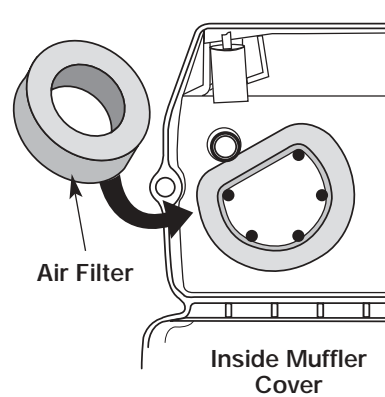

Fig. 48
2. Turn cover over and look inside to locate the air filter. Remove the air filter from inside the air filter/muffler cover (Fig. 48).
6. Replace the air filter inside the air filter/muffler cover (Fig. 48).